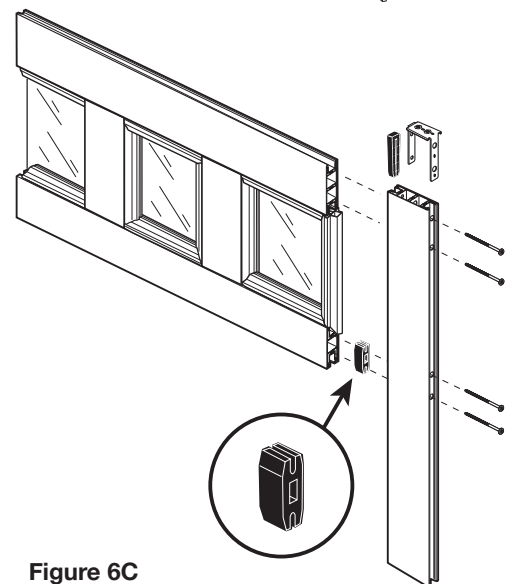

Figure 6C
Place 2 of the 4" screws into the 2 holes in the outside of the Stile channel at the bottom of the window section. Make sure they are fully inserted. Slide a small reinforcement clip (F) into the channel and over the screw shafts. Line up the 4 screws inserted through the Stile with the extrusion holes in the top rail and the bottom transom rail and tighten until flush and secure. See Figure 6C